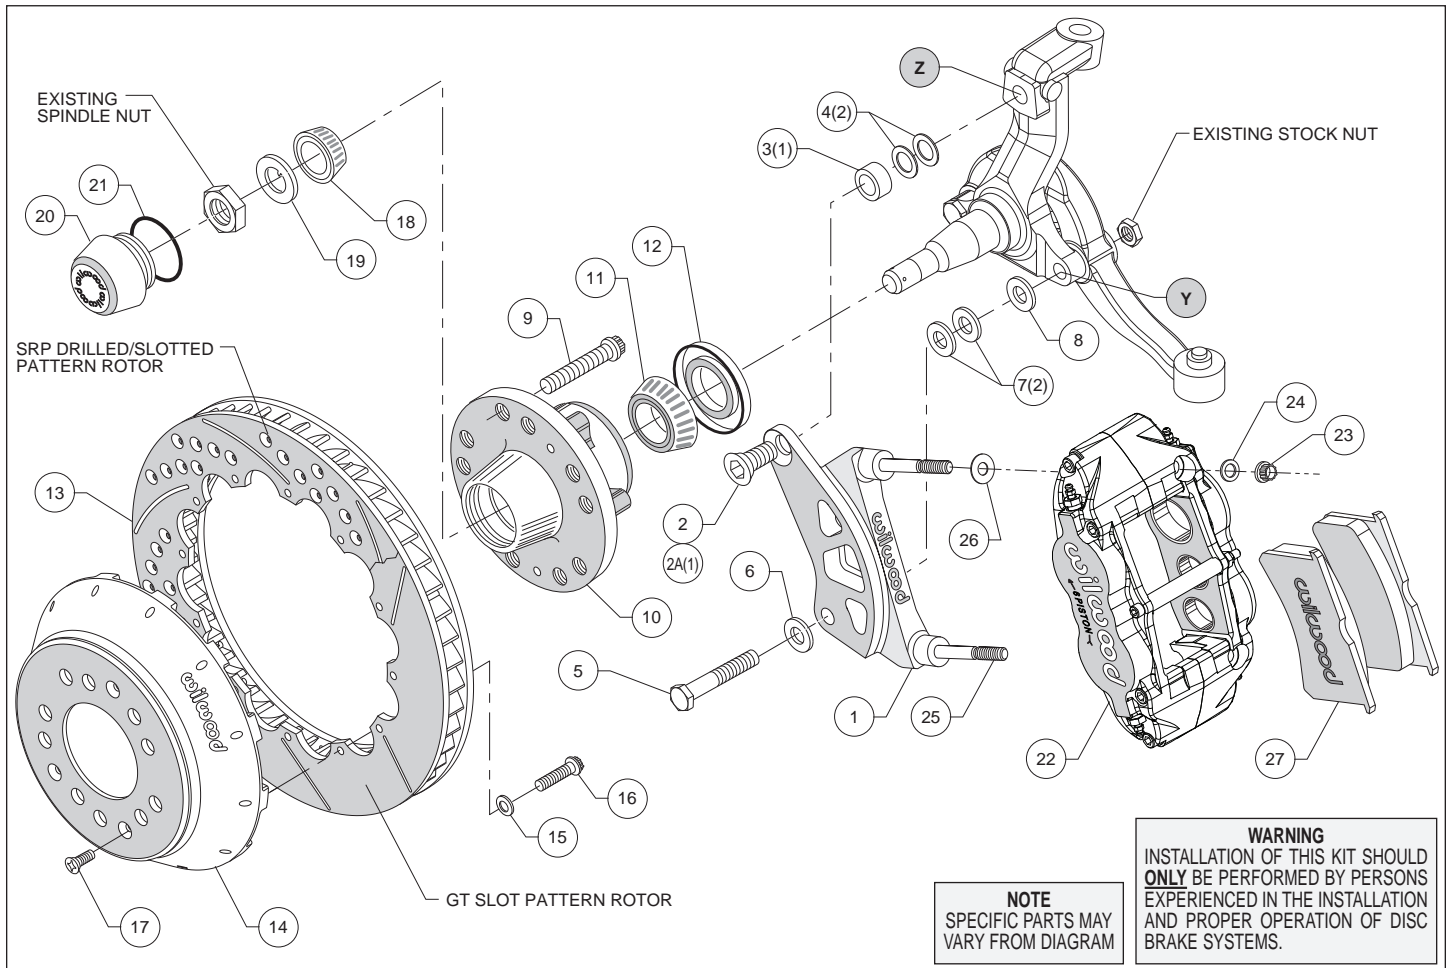
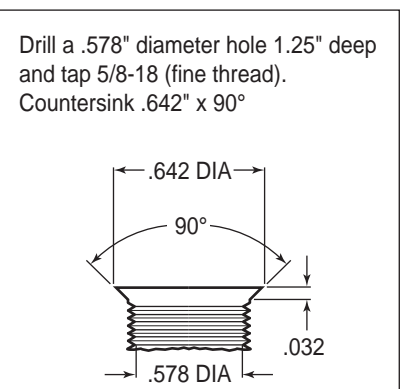
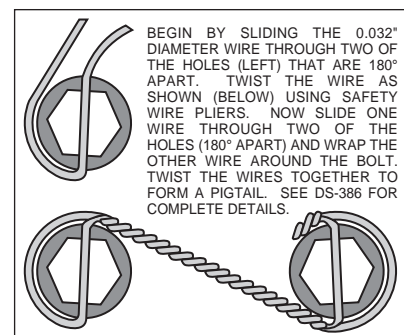

Figure 1. Typical Installation Configuration
Figure 3. Drill and Tap Detail
Figure 4. Safety Wire Diagram
•**NOTE:** 1964-66 spindles may require the following modifications (reference figure 1 and 3): Top anchor pin hole (Z) must be drilled and tapped to the dimensions as outlined in figure 3. Bottom rear steering arm bolt hole (Y) in the spindle and steering arm must be enlarged to .50" by drilling. A 1/2-20 backing nut (not supplied in kit) will need to be acquired to torque bracket / steering arm bolt (supplied in kit).
•**Disc Application:** The caliper mount bracket assembly (1) should be installed first with clean, dry threads on the mounting bolts. Mount bracket (1) to face of dust plate mount pad of spindle using the bottom bolt (5), through washer (6) while positioning washer (7, Heidts spindle kit only) and shim washer (8) "if needed for bracket flatness" between bracket and spindle face, finger tighten only. Install the upper bolt (2A) with spacer (3) and flat washer (4, Heidts spindle kit only), ensuring flatness positioned between bracket and top hole of spindle face. Inspect for interference from casting irregularities, machining ridges, burrs, etc. If everything fits correctly, then remove the mounting bolts (2A and 5) and coat threads with red *Loctite*® 271 and reinstall. Torque bolt (2A) to 120 ft-lb. Torque bolt (5) to 77 ft-lb.
•**Drum Application:** The caliper mount bracket assembly (1) should be installed first with clean, dry threads on the mounting bolts. Mount bracket (1) to face of dust plate mount pad of spindle using the bottom bolt (5), through washer (6) while positioning washer (8) between bracket and spindle face, finger tighten only. Install the upper bolt (2). Inspect for interference from casting irregularities, machining ridges, burrs, etc. If everything fits correctly, then remove the mounting bolts (2 and 5) and coat threads with red *Loctite*® 271 and reinstall. Torque bolt (2) to 120 ft-lb. Torque bolt (5) to 77 ft-lb.
•Install wheel studs (9) into the hub (10). Torque to 77 ft-lb. **NOTE:** There are two five lug patterns in the hub (5 x 4.50 and 5 x 4.75). Make sure of the correct hole pattern for the correct wheel application before installing studs into hub.
- With the larger I.D. side of the rotor (13) facing away from the hat (14), bolt rotor (13) to hat (14) through the backside of the rotor using washers (15) and bolts (16). Using an alternating sequence, apply red *Loctite*® 271 to the threads and torque bolts to 155 **in-lb**. For an added measure of security, the bolts may be safety wired using standard 0.032 inch diameter stainless steel safety wire as shown in Figure 4. Please refer to Wilwood's data sheet DS-386 for complete safety wire installation instructions.
- Slide the rotor/hat assembly over the studs (9) in the hub (10) taking care to align the small countersunk holes in the hat (14) with the small threaded holes in the hub (10). Install three flat head socket screws (17) through the small holes in the hat (14) and torque to 85 **in-lb**.
- NOTE:** *This kit contains distinct right and left hand calipers that must be mounted in a specific direction, as described below.* Lubricate the caliper mounting studs (25) with lightweight oil. Initially place one .035" thick shim (26) on each stud as shown in Figure 1. Mount the caliper (22) onto the bracket (1) using lock nuts (23) and washers (24), Figure 1. Ensure that the caliper is mounted so that the largest pistons are at the rotor exit end of the caliper, in relation to the direction of rotor rotation.
- Remove the caliper center bridge pad retainer bolt, nut, and tube from the caliper. Slide the brake pads (27) into place. They should install easily without interference. Check that the outside radius of the brake pad is aligned with the outside diameter radius of the rotor face. Add or subtract shims (26) between the caliper and mount bracket to gain the proper alignment. Lubricate caliper mounting studs and nuts with lightweight oil, reinstall the caliper and torque the caliper nuts (23) to 30 ft-lb. Reinstall the center bridge pad retainer tube, bolt, and locknut. The locknut should be snug without play in the bolt or tube. Be cautious not to over tighten.